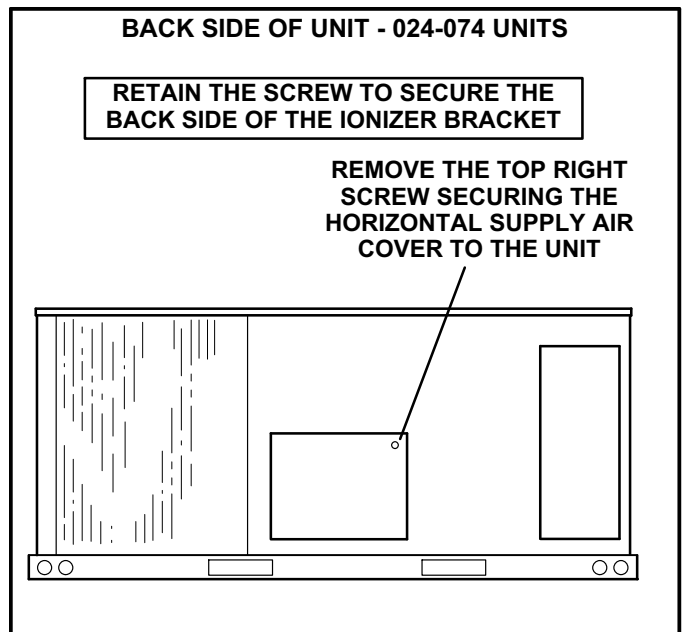

FIGURE 1
- 1- On the back side of the unit, remove one screw securing the horizontal supply air duct cover in place. See figure 1. Retain the screw to secure the back side of the ionizer bracket.